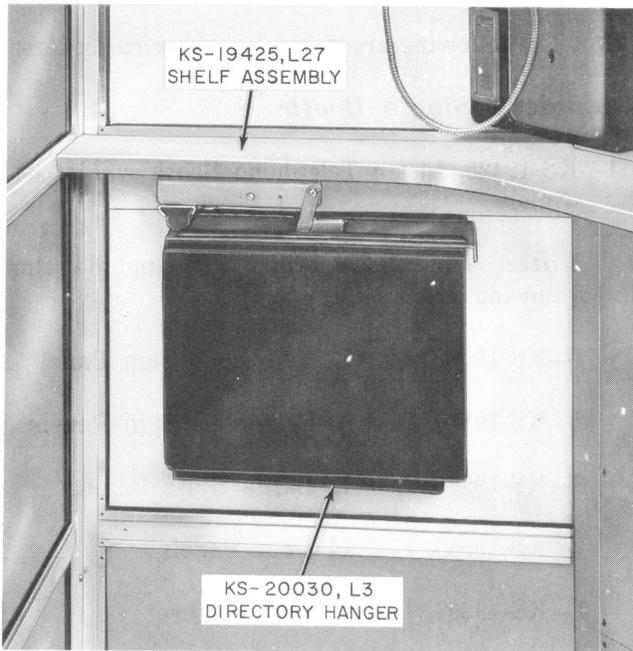

Fig. 10—KS-19425, List 27 Shelf Assembly with KS-20030, List 3 Directory Hanger
2.19 Refer to Fig. 10 through 12.